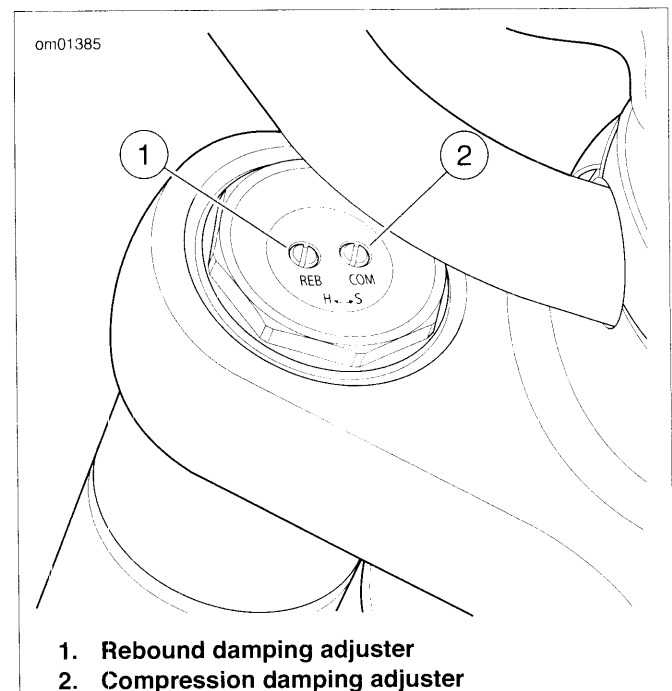

Figure 2-191. Fork Rebound and Compression Damping Adjusters: XR 1200X
1. See Figure 2-191. Turn rebound damping adjuster clockwise until it stops. This is the maximum rebound setting.
1. See Figure 2-191. Turn compression damping adjuster clockwise until it stops. This is the maximum compression setting.